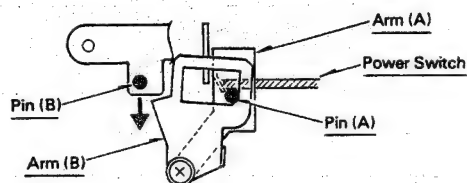

Fig. 2
2. With the cassette fully inserted, the Pin (A), attached to Arm (A), allows Arm (B) to rotate, and Pin (B), supported by Arm (B), disengages. Simultaneously, Arm (A) serves to actuate the Power Switch (Fig. 2).